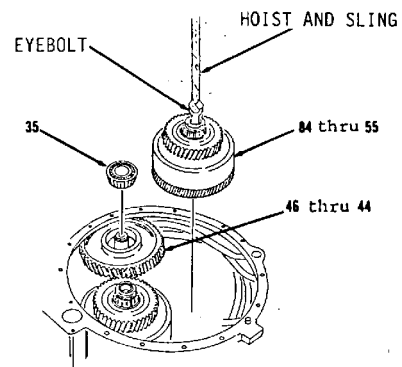

Figure 14-9.
38. Install 3/4-10NC forged eyebolt in items 84 thru 55 as an assembly (Figure 14-9).
39. Lift items 46 thru 44 as an assembly.
40. Using hoist and sling, install items 84 thru 55 as an assembly.
43. Heat roller bearing (35) in engine oil SAE 30 to temperature of 275 degrees F.
44. Install roller bearing (35).